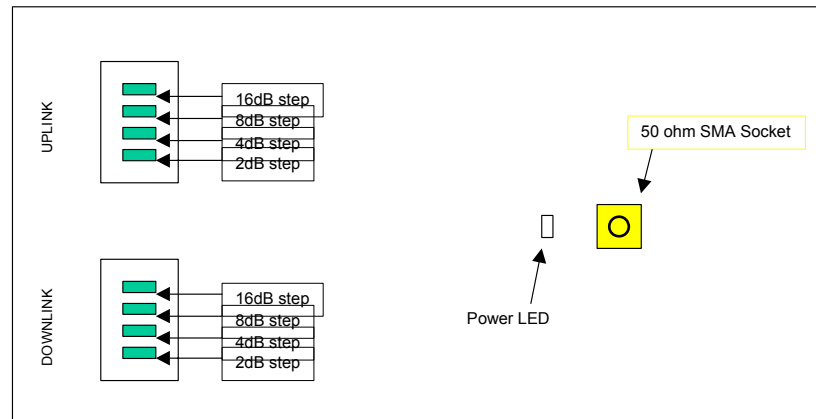

FIGURE 4-3
1. Disconnect the Diversity (B) branch coax cable from the TIM Transceiver.
7. At the antenna site, adjust the uplink DIP switches to the proper gain (shown in FIGURE 4-3). When properly calibrated, the RSSI level for that antenna should match the reference level -1 dbm to -3 dbm. For example, if the reference level was -40 dbm, the antenna gain should be -41 to -43 dbm.
8. Set the downlink DIP switches to the same settings as the uplink switches (shown in FIGURE 4-3).